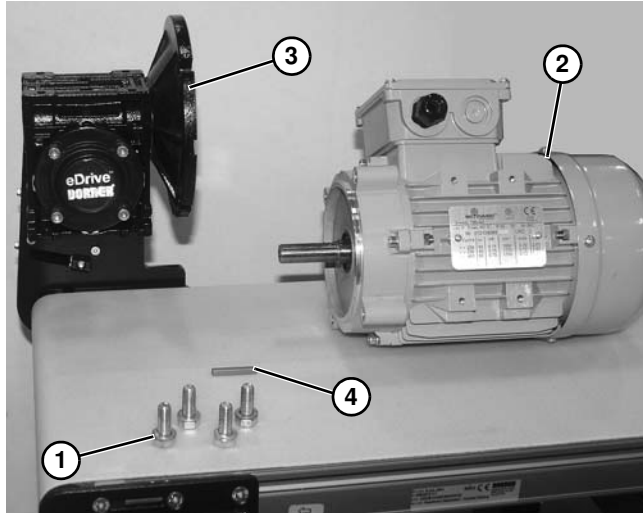

Figure 24
1. Remove four screws (**Figure 24, item 1**). Detach motor (**Figure 24, item 2**) from gear reducer (**Figure 24, item 3**). Retain motor output shaft key (**Figure 24, item 4**).